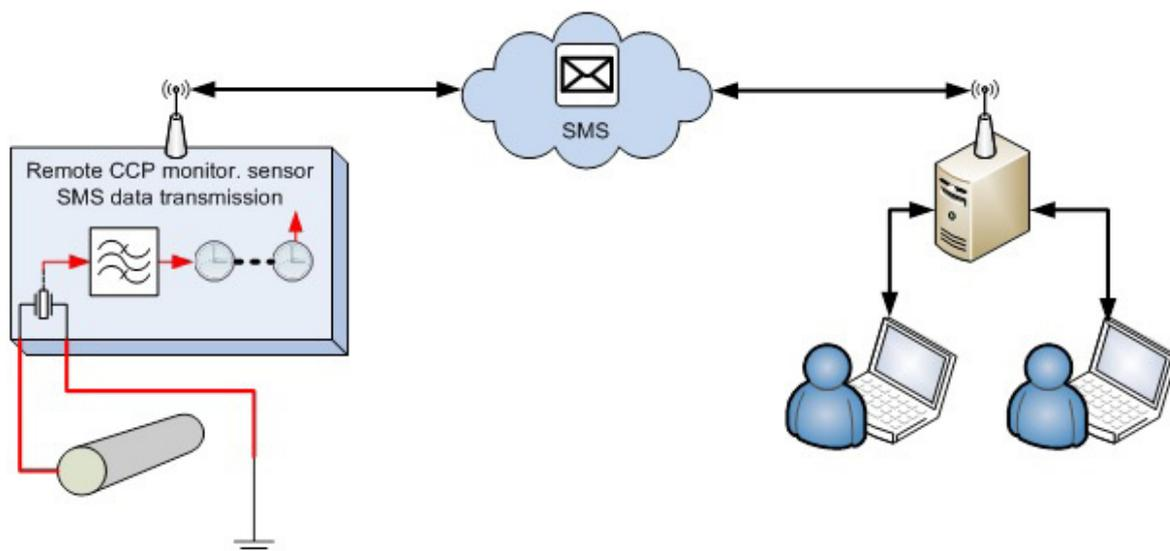

Figure 1: Current technological level of remote CCP monitoring
The current remote CCP monitoring technology meets the requirements stipulated in Code of Practice GW 16, cf. German Technical and Scientific Association for Gas and Water DVGW, GW 16 "Cathodic Protection (CP) of Buried Storage Tanks and Steel Pipes – Remote Monitoring" (2008-05). Typically, the measurement values are interrogated up to four times a day, while the data is transmitted once a day to the evaluation centre via SMS through the mobile communications network. The CCP technical staff in the control centre evaluate the received measurement data, as shown in Figure 1.